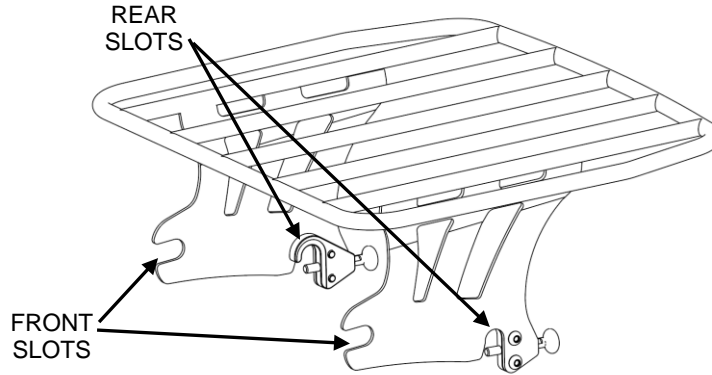
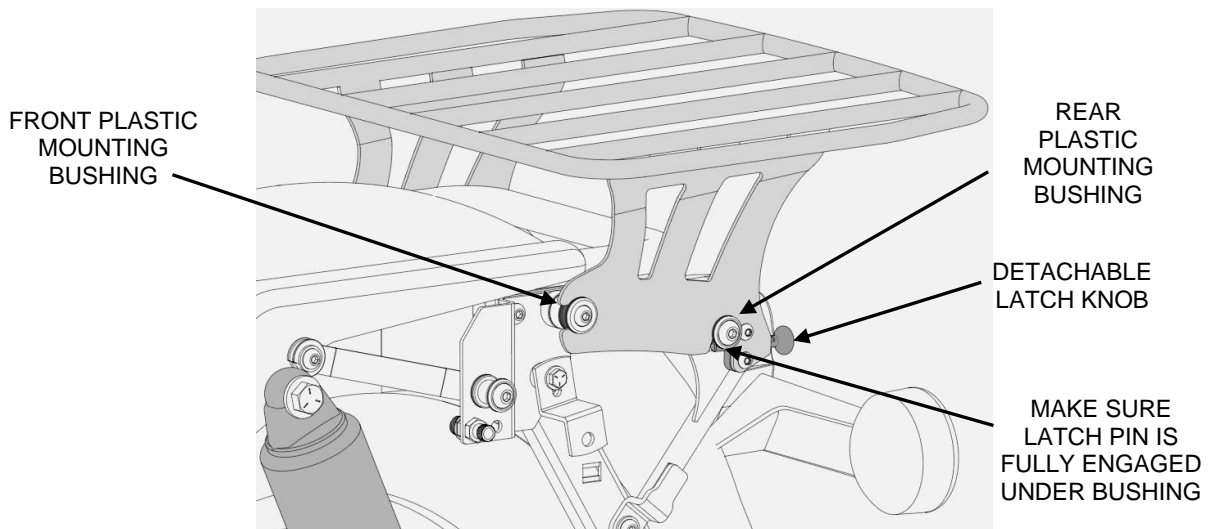

FIGURE 1
FIGURE 2
NOTE: See **FIGURE 1**. This Cobra detachable rack **must** be installed after the Cobra rear mounting kit (P/N 602-2103) or the Harley-Davidson rear mounting kit (P/N 53804-06). Compatible with Cobra Detachable Backrest (P/N 602-2012 or 602-2212).
1. Check the fitment of the detachable rack on the bike, attaching it by following steps #2-4 below. All of the front and rear slots (indicated in **FIGURE 1**) of the rack should fully engage with both the rear and front plastic mounting bushings (as indicated in **FIGURE 2**) of the rear docking kit on both sides of the bike. If any do not, loosen any hardware necessary in order to adjust the locations for the mounting bushings for the front docking kit until they do. **Re-torque** any loosened hardware to their specified torques, and then detach the rack from the bike.
2. Slide the front slots (indicated in **FIGURE 1**) of the rack into the front mounting bushing of the rear mounting kit (indicated in **FIGURE 2**). Make sure to insert the front slots all the way onto the bushings.
3. Slowly rotate the rack downward until the rear slots (indicated in **FIGURE 1**) slip over the rear mounting bushings (as indicated in **FIGURE 2**).
4. See **FIGURE 2**. Pull backward on both detachable latch knobs and then push downward on the rack to allow the rack's slots to sit completely in both the front and rear mounting bushings. Then release the detachable latch knob to fully engage the latch pin underneath the rear mounting bushing.
5. Before each ride, ensure that the detachable latches are fully engaged underneath the rear mounting bushings (as indicated in **FIGURE 2**).